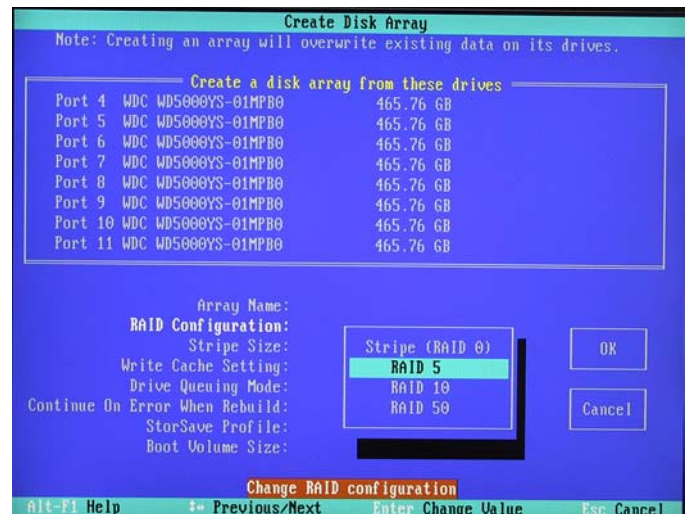

Figure 6-10
- 10) Use the up/down arrow keys to highlight the **RAID Configuration** item, and then press the <Enter> key to access an associated pop-up dialog. Use the up/down arrow keys to highlight the **RAID 5** option, and then press the <Enter> key to select this option (Figure 6-10).